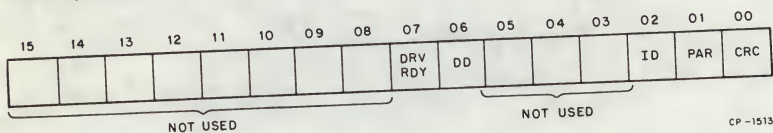

Figure 7 RXES Format
**RX Error and Status (RXES) (Figure 7)** — This register contains the current error and status conditions of the drive selected by bit 4 (unit select) of the RXCS. This read-only register can be addressed only under the protocol of the function in progress. The RXES is located in the RXDB upon completion of a function. Table 4 lists the RXES bit descriptions.